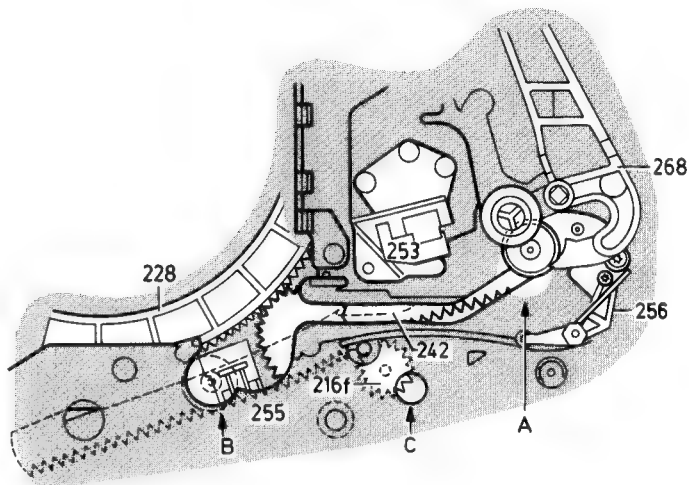

Fig. 1-13
- Push the gearwheel pos. 216-f 'C' (Fig. 1-13) through the hole in the top plate down and hold it. (the pressure roller is now unlocked by the gearwheel).
Check: - The pressure roller is in position B (Fig. 1-13) with play and the swivel wheel can be moved in the end position with play otherwise correction is needed according chapter 1-12.